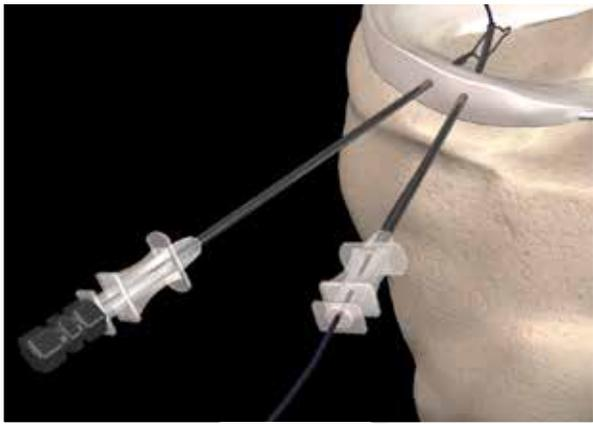

Figure 8
- Introduce the suture into the joint by threading it through the second needle and, thus, the loop. Slowly pull back on the second needle, ensuring the suture remains in the loop (Figure 8).